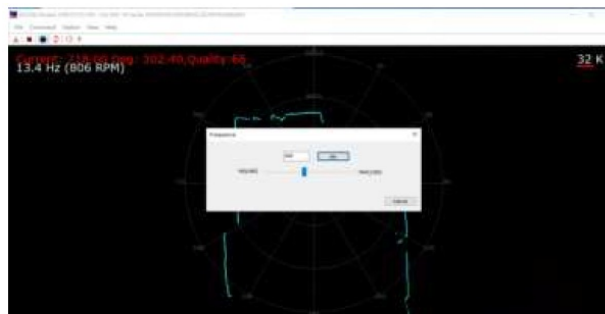

Figure 3-7 Lidar Speed Regulation
- Click Command >IP Config to configure the IP address. As Figure 3-7 shows resetting the device after the configuration is complete. For SDK, see set Lidar Ip Cone and reset.